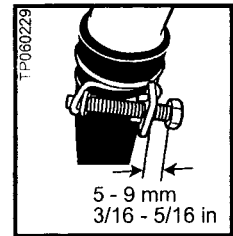

Figure 73
- Tighten the fuel filler hose clamp at the fuel fill tube so the distance between the bolt head and metal plate is set to the proper dimension (see Figure 73).